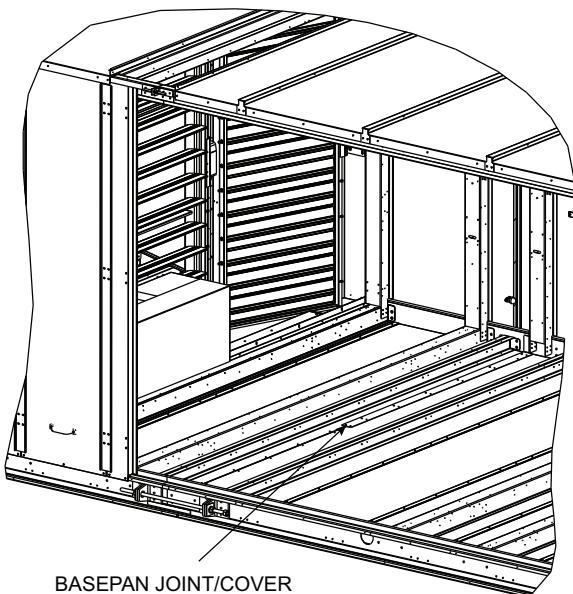

Fig. 57 — Basepan Joint/Cover
12. Place seal strip along both sides of basepan joint. Attach basepan covers to basepan joint. See Fig. 57.